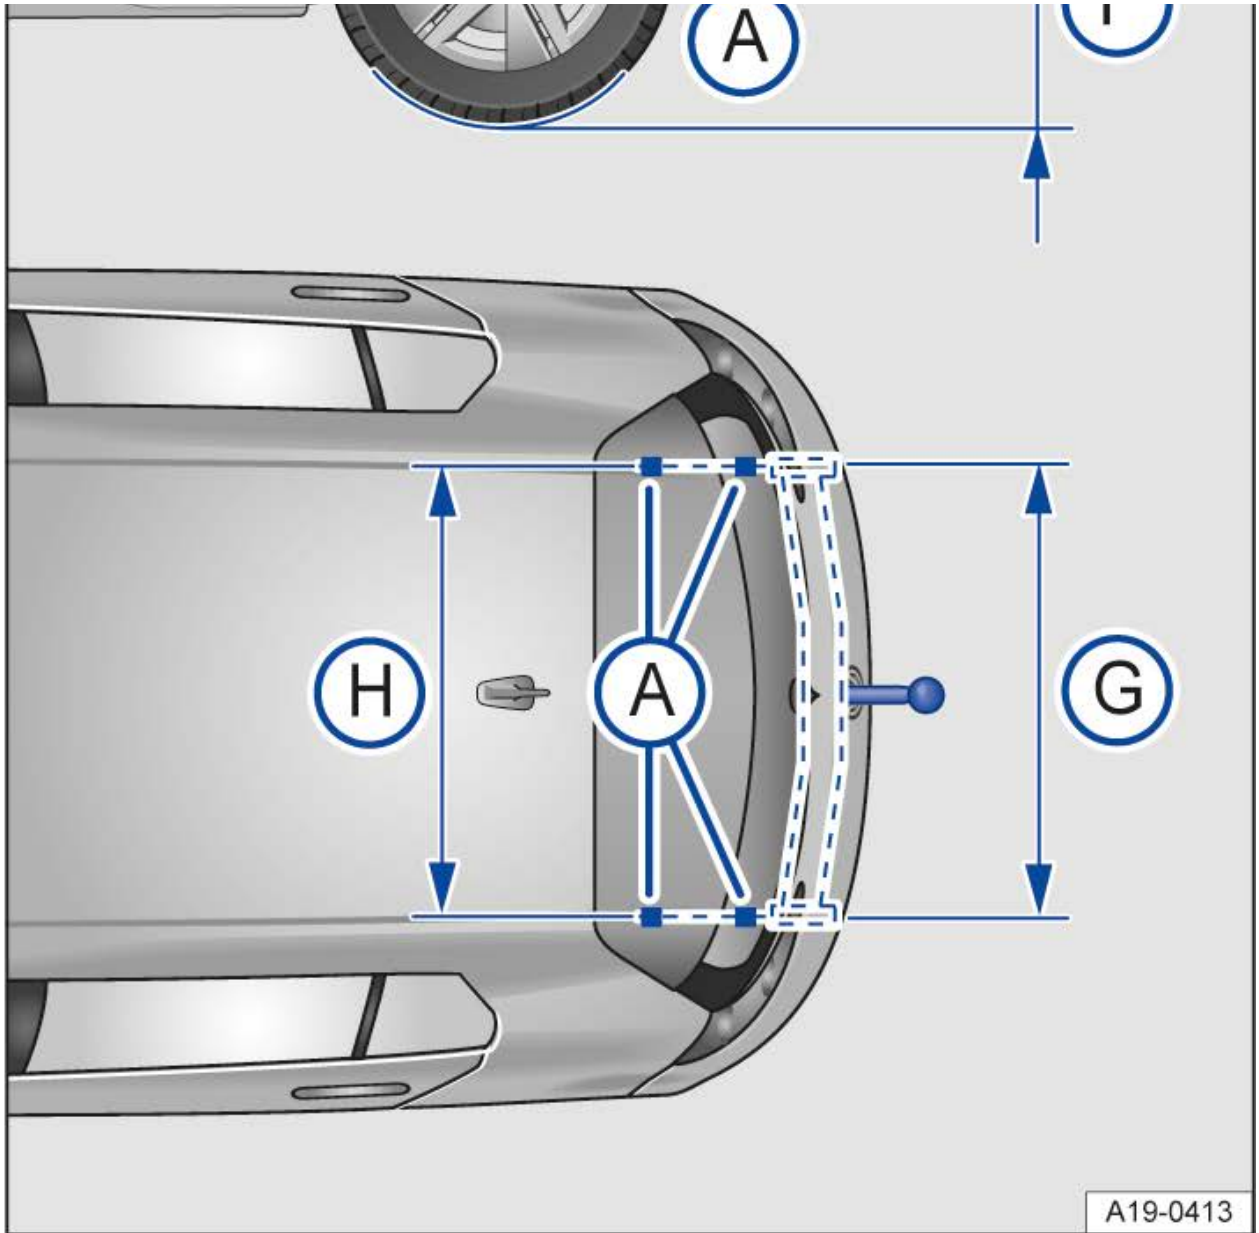

Fig. 1 Dimensions and mounting points for retrofitting a trailer hitch.
The correct dimensions must always be used when retrofitting a trailer hitch → *fig. 1*. The smaller specified dimension from the center of the ball hitch to the road surface (F) must always be met. This also applies when the vehicle is fully loaded including the maximum tongue weight.
- (A) Mounting points
- (B) 851 mm
- (C) 532 mm
- (D) 312 mm
- (E) min. 65 mm
- (F) 350–420 mm
- (G) 1043 mm
- (H) 1048 mm